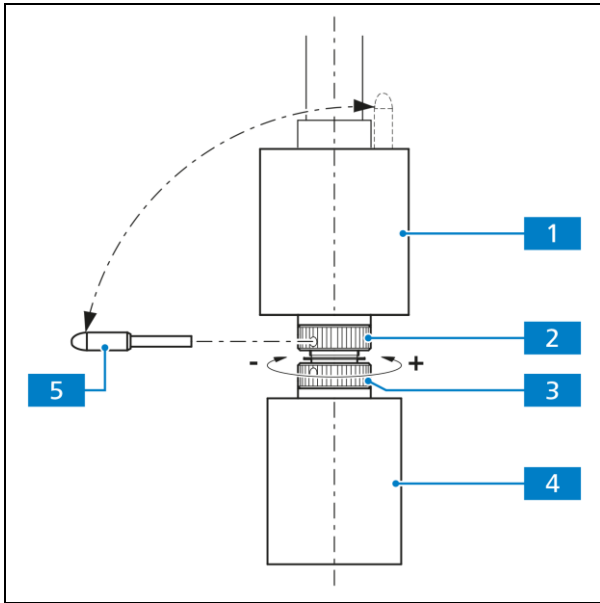

Fig. 3-9 Friction adjustment
The length of the X and Y drives can be extended by shifting the respective coaxial knurled knob (Fig. 3-9/4 or 1) axially within a range of approx. 15 mm.
(1) X drive
- Push the coaxial knurled knob for the X adjustment (Fig. 3-9/4) all the way to the bottom.
- Remove the supplied adjusting pin (Fig. 3-9/5) from the coaxial knurled knob for the Y adjustment (Fig. 3-9/1) and insert it into one of the holes of the lower hole nut (Fig. 3-9/3).
- Hold the coaxial knurled knob for the X adjustment (Fig. 3-9/4) and turn the hole nut with the adjusting pin clockwise (small friction adjustment: -) or counter-clockwise (large friction adjustment: +) until the desired freedom of movement has been achieved (see Fig. 3-9).
(2) Y drive
- Push the coaxial knurled knob for the Y adjustment (Fig. 3-9/1) all the way to the top.
- Insert the supplied adjusting pin (Fig. 3-9/5) into the hole of the upper hole nut (Fig. 3-9/2).
- Hold the coaxial knurled knob for the Y adjustment (Fig. 3-9/1) and turn the hole nut with the adjusting pin clockwise (small friction adjustment: -) or counter-clockwise (large friction adjustment: +) until the desired freedom of movement has been achieved.
- Re-insert the adjusting pin into the coaxial knurled knob for the Y adjustment (Fig. 3-9/1).